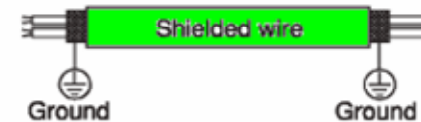

Fig. 4-4
**(5) Use shielded wires for inter-unit control wiring (c) and ground the shield on both sides, otherwise misoperation from noise may occur. (Fig. 4-4) Connect wiring as shown in Section "4-3. Wiring System Diagram."**